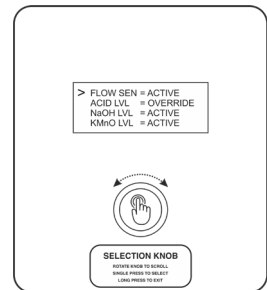

Fig. No. 24.3
- **SENSOR STATUS** (Ref. Fig. No. 24.3)